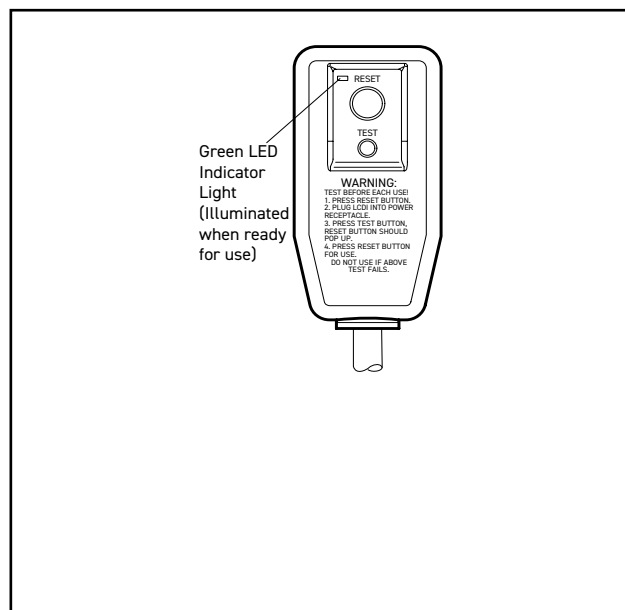

Figure 207 (LCDI Power Cord)
2. Press RESET (see Figure 207).